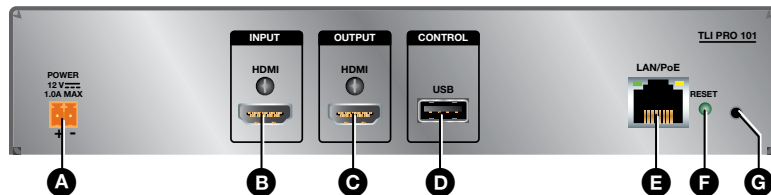
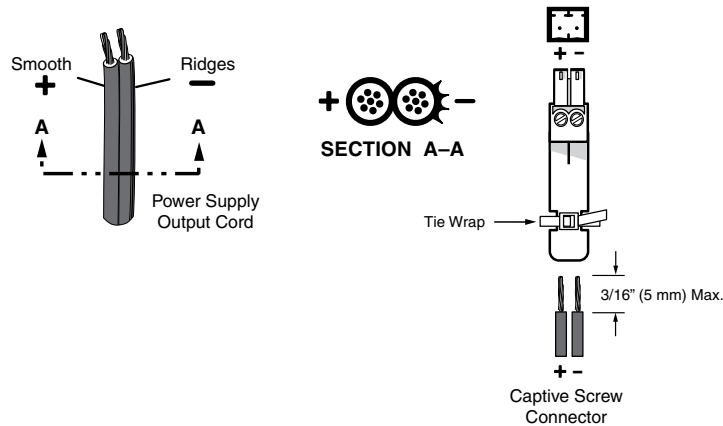

Figure 2. TLI Pro 101 Rear Panel
Figure 3. Wiring the Power Connector
- ☐ Connect the HDMI output from the TLI Pro 101 (figure 2, **C** on page 5) to the third-party touchpanel.
- A Power** (see figure 2, **A**, on page 5)— Connect the 2-pole, 3.5 mm captive screw connector from the provided 12 VDC power supply to the power supply socket on the rear panel. Figure 3 shows how to wire the connector. Ensure the connections have the correct polarity.
- B HDMI Input** (see figure 2 on page 5) — Plug the cable from the input source device into this female HDMI type A connector. Secure the HDMI connector to the TLI Pro 101 with the provided LockIt HDMI lacing bracket (see “LockIt HDMI Lacing Bracket Installation”, below).
- D USB Connector** (see figure 2 on page 5) — Supports High-speed USB 2.0 control. Plug a USB cable from the third-party touchpanel into this female type B connector.
- E Network and Power over Ethernet Connector** (see figure 2 on page 5) — Connect the interface to the LAN using a twisted pair cable, terminated with an RJ-45 connector. Use a straight-through Ethernet cable to connect the panel to a switch or router. Use a crossover cable to connect the panel directly to a computer.